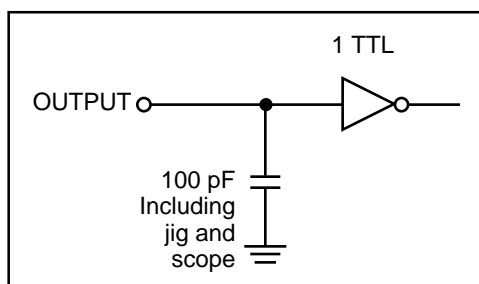

Figure 1
| Output Load                                 | See Figures 1 and 2 |
- Test conditions assume signal transition times of 5 ns or less, timing reference levels of 1.3V, input pulse levels of 0.4V to 2.2V and output loading specified in Figure 1.
- Test conditions assume signal transition times of 3 ns or less, timing reference levels of 1.3V, input pulse levels of 0.4V to 2.2V and output loading specified in Figure 1.